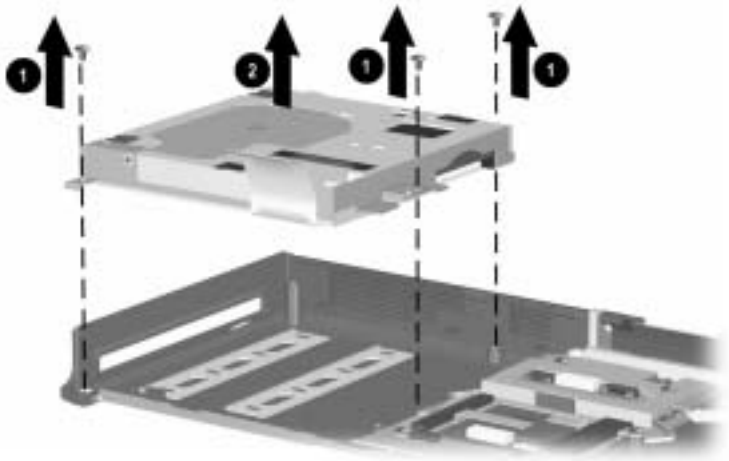

Figure 5-31. Removing the Diskette Drive
4. Remove the three TM2.5 × 5.0 screws ❶ that secure the diskette drive to the palm rest (Figure 5-31).
5. Remove the diskette drive ❷ from the palm rest.